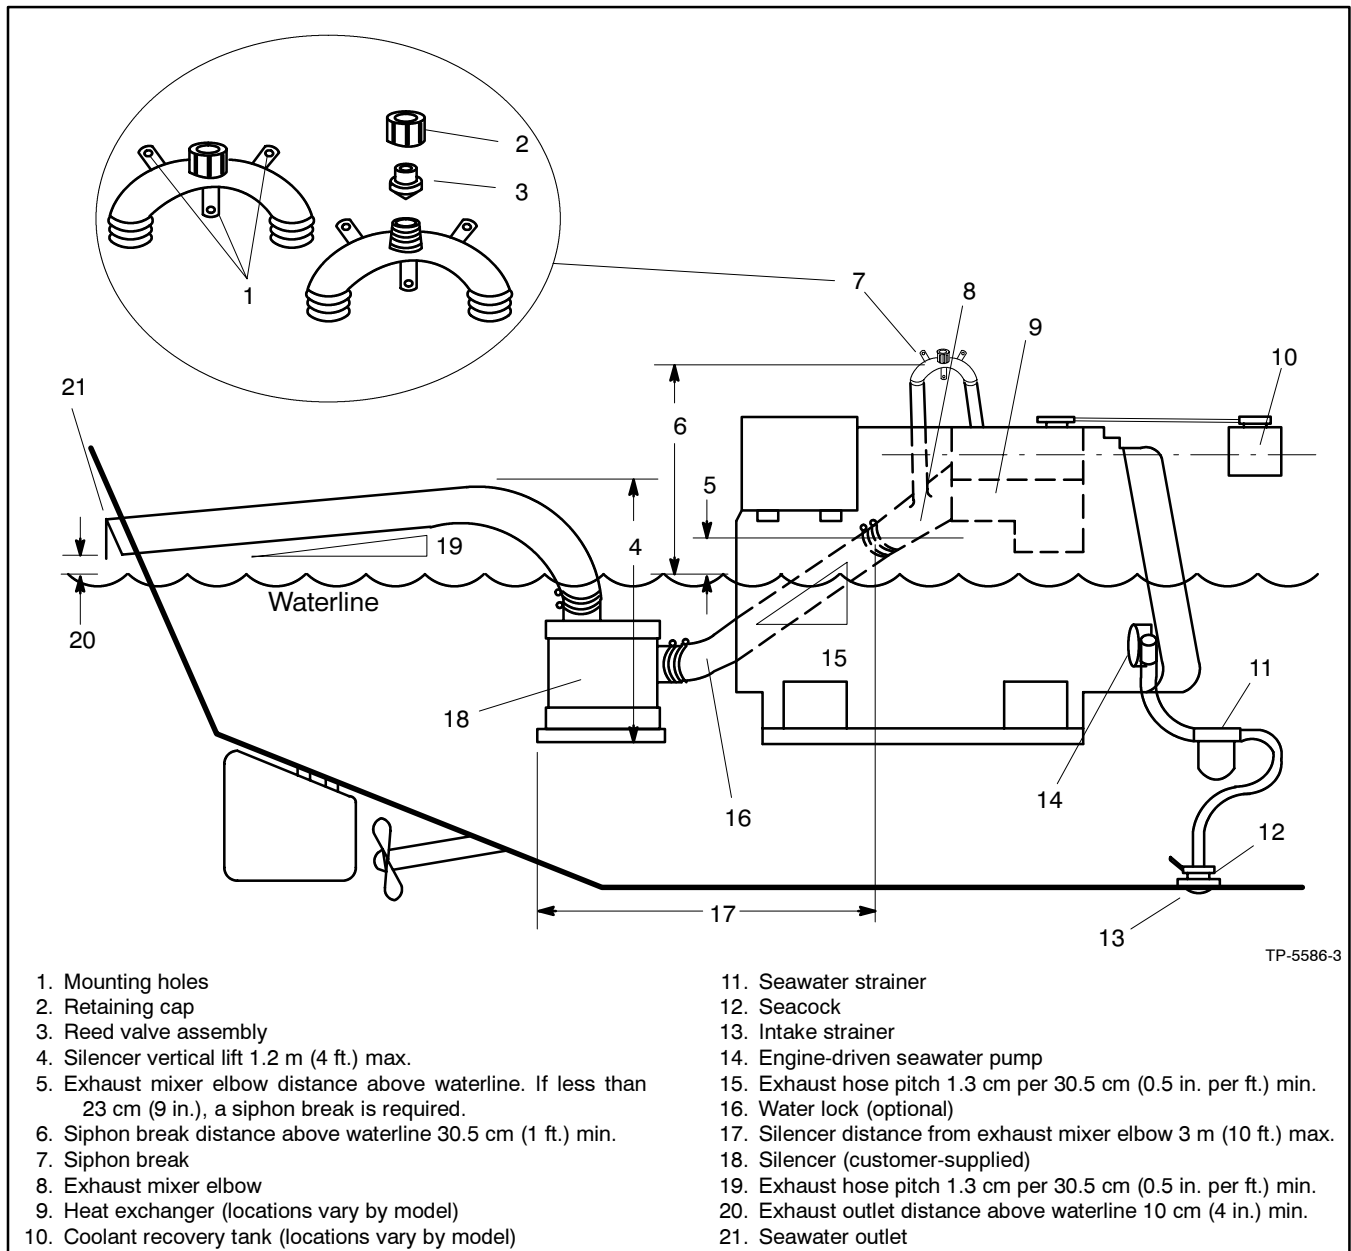

Figure 5-8 Siphon Break, Plastic "U" Type
A siphon break prevents seawater entry into the engine when the engine exhaust manifold outlet is less than 23 cm (9 in.) above waterline. Check the siphon break at the interval listed in the service schedule. Use the following procedure and Figure 5-8 to ensure correct functioning of the siphon break.
2. Remove the retaining cap and the reed valve for inspection. See Figure 5-8.